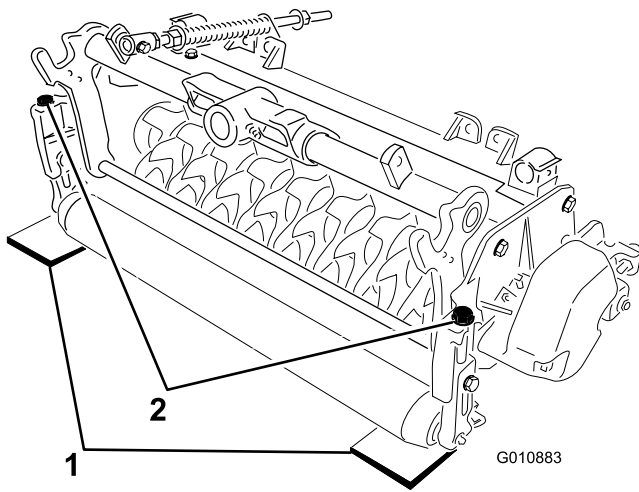

Figure 4
2. Place 2 gauge bars, which have the desired depth of blade penetration below the ground, under the front and rear rollers of the verticutter reel (on each end of the reel); refer to Figure 4.
3. Turn the adjusting bolt on each height-of-cut bracket (Figure 4) so that the reel blades come in contact with the level surface on both ends.